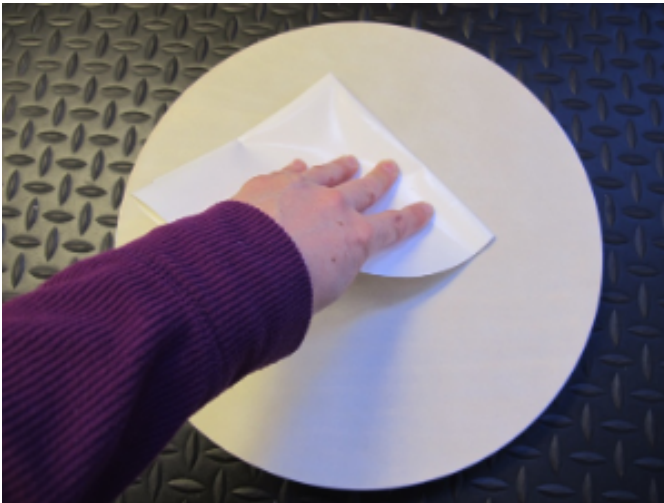

Figure 9
g. Fold the backing in quarters with the smooth side on the outside. Press on it and move it around the pad. This will help secure the pad and remove any bubbles (Fig. 9).